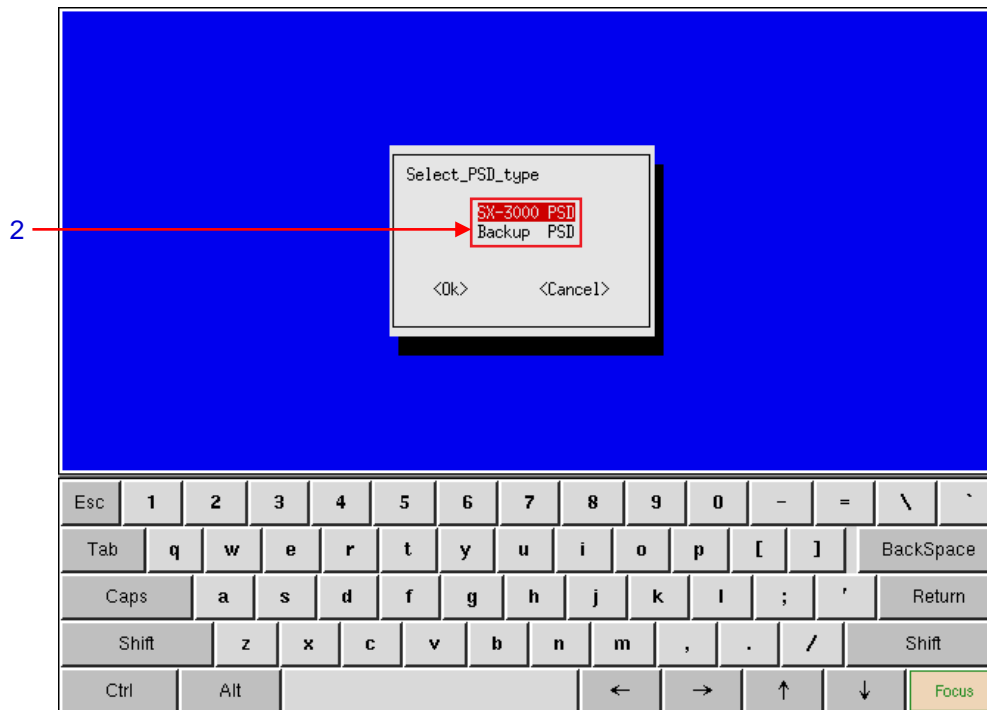

Figure 78 Selecting PSD-3000-P type.
- 1 Select **Create new RAID array**. A new window appears as seen in **Figure 78**.